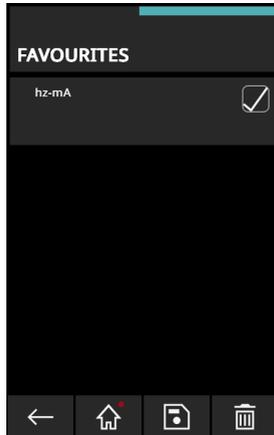

Figure 3-8: Favourite Tasks
3. To delete a **Favourite** task select the tick box for the task, as shown in Figure 3-8, and push the **Delete**  icon. The screen will then show a screen prompt message for you to confirm the delete operation. To save a selected user task, push the **Save**  icon: there will be a screen prompt message to save the task as a named filename. If the necessary task is not available as a default, you can use **CUSTOM TASK** to save a new task. Refer to Section 3.3.5.